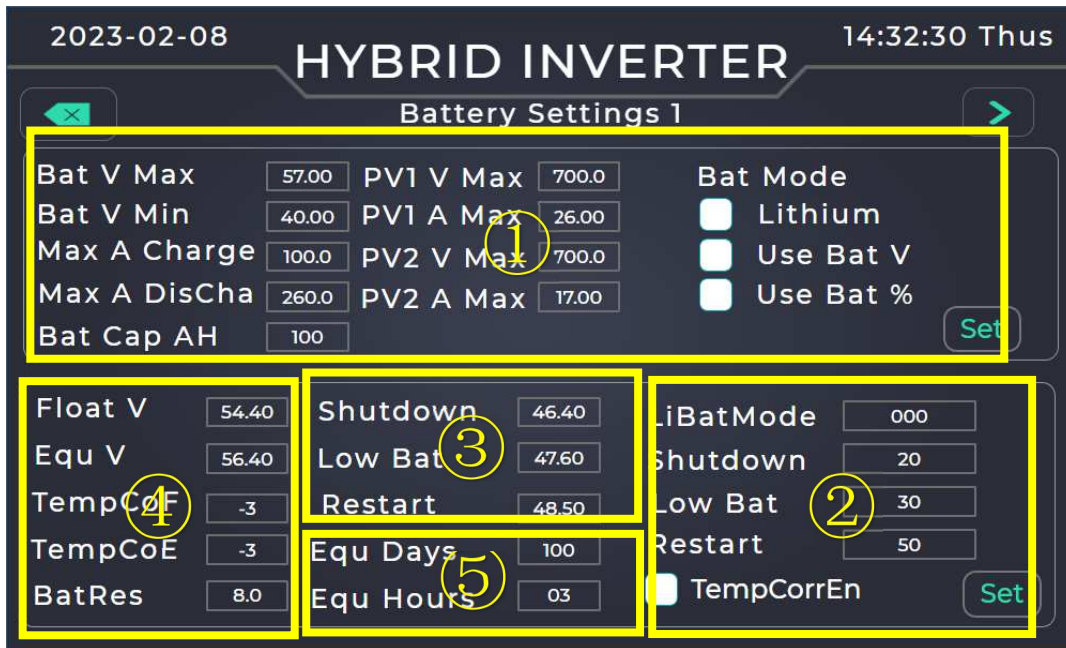
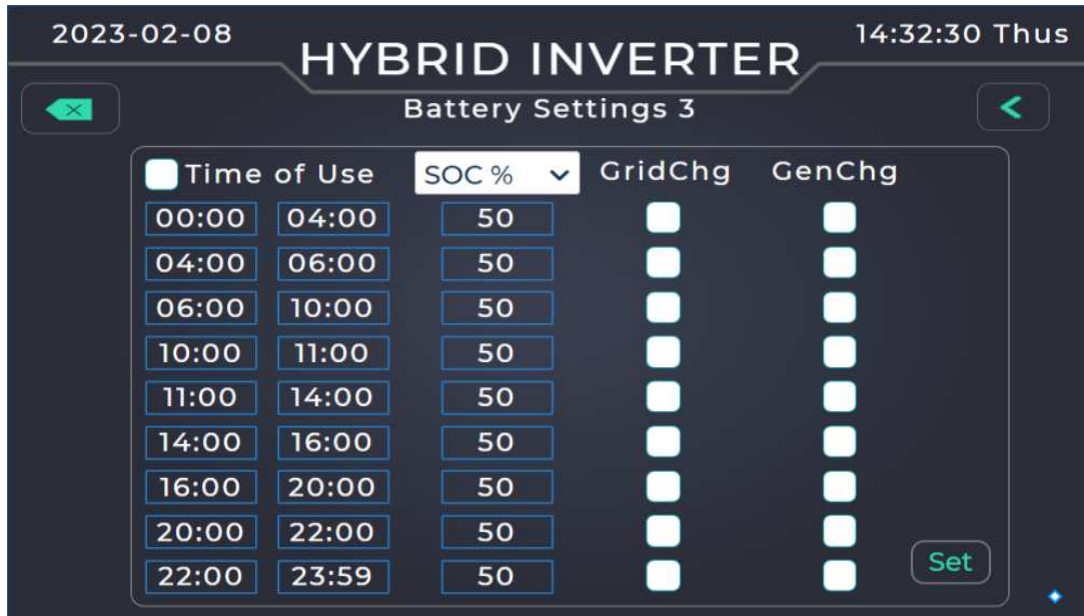
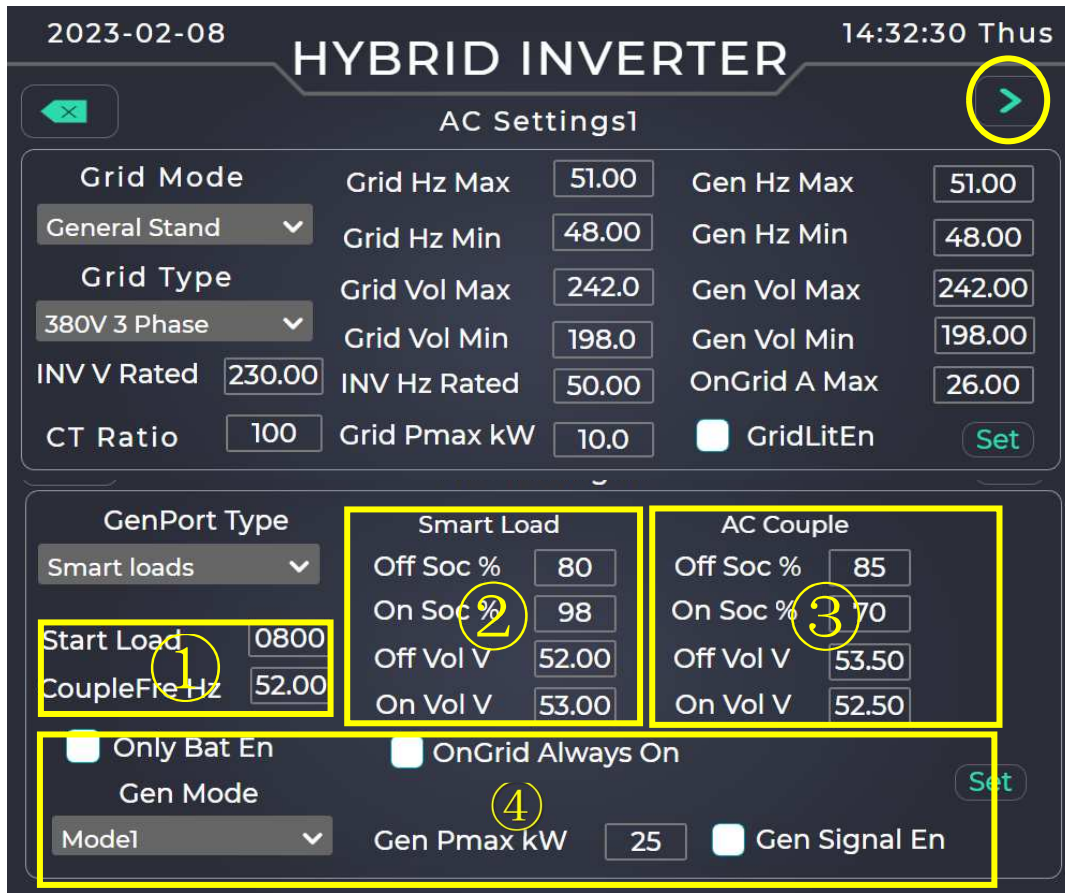

Figure 3.12 Battery Setting 1 Interface
Figure 3.14 Battery Setting 3 Interface
Figure 3.15 Grid Setting Interface
Click "Battery Settings" to set battery-related parameters, as shown in Figure 3.12~Figure 3.14, "Battery Settings1~3", divided into 3 parts.
Bat Mode: Select one of "Lithium", "Use Bat V" or "Use Bat %" for all the setting. This will affect ②,③ in that Figure 3.12 and ②,③ in that Figure 3.15 settings below.
b. The second plate is the battery protection setting②
- **TempCorrEn** , When this option is checked, the temperature compensation of the float or average charge in ④ will take effect.
Click "Grid Setting" to set grid related parameters, as shown in Figure 3.15, including grid standard, upper and lower limits of voltage frequency, upper and lower limits of voltage value, grid frequency, GEN interface type, CT transformation ratio, Grid power limit, Genport function setting, etc.
- When selecting the Gen connected to the GEN interface, please confirm that the control line of the Gen is also connected to the J8 terminal NO2&COM2 Gen adjustment control , NO1&COM1 Gen start control , select GenPortTypee as Generator in the grid setting interface in Figure 3.15. At this time, Select Gen Mode, choose one of the two Modes,when the grid is powered off, the diesel generator will automatically start up to supply power to the system.
- When selecting the smart load connected to the GEN interface, select GenPortTypee as Smartloads in the grid setting interface in Figure 3.15, and the Gen relay will be turned on at this time, and the GEN interface will supply power to the smart load for output.
Definition of function settings in number ② in Figure 3.15:
- When selecting the smart load connected to the GEN interface, select ACCouple as GenPortTypee in the grid setting interface in Figure 3.15, and then ACCouple and the grid supply power to the system together.
Definition of function settings in number ①③④ in Figure 3.15:
Click the CT Ratio data box in the grid setting interface in Figure 3.15 to set the CT transformation ratio. When the model of transformer is 100:50mA, the interface value shall be filled with 100. If the transformer is 150:50mA, the value should be 150.